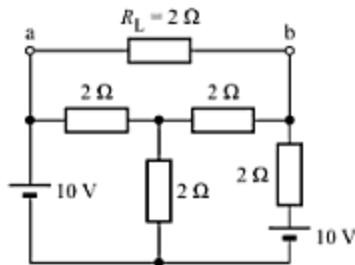

Fig. 4.44
- Find the current in R_L in the circuit of Fig. 4.44 by using Thevenin's theorem, and then verify your results by using loop current method. [Ans. 0.625 A]